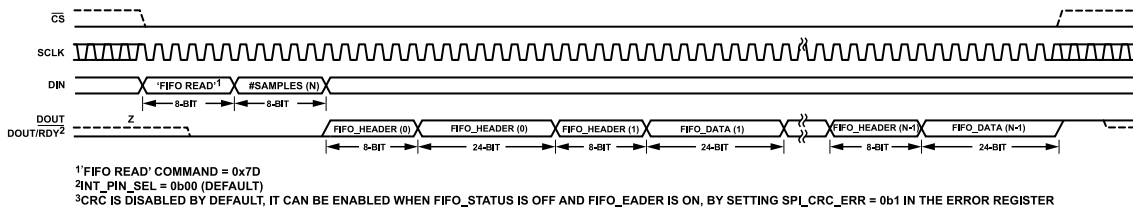
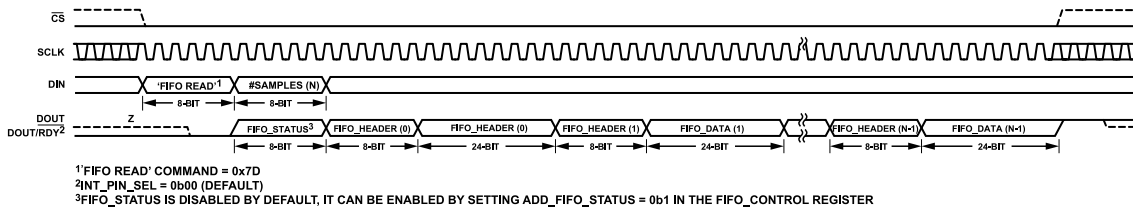

Figure 104. FIFO Readback Default (FIFO\_STATUS Append Off and FIFO\_HEADER Append On)
Figure 105. FIFO Readback (FIFO\_STATUS Append On and FIFO\_HEADER Append On)
By default, the FIFO\_HEADER is enabled and the FIFO\_STATUS append is disabled, so the FIFO readback diagram looks like Figure 104. If the FIFO\_STATUS append is enabled, the FIFO readback diagram looks like Figure 105.
The FIFO\_STATUS register content (see Table 71) can be enabled to be added and read before the FIFO\_DATA and during the # samples (N) byte (see Figure 105), by setting ADD\_FIFO\_STATUS bit to 1 in the FIFO\_CONTROL register (see Table 69). This way, the user can detect an error earlier on and abort the FIFO\_DATA readback.